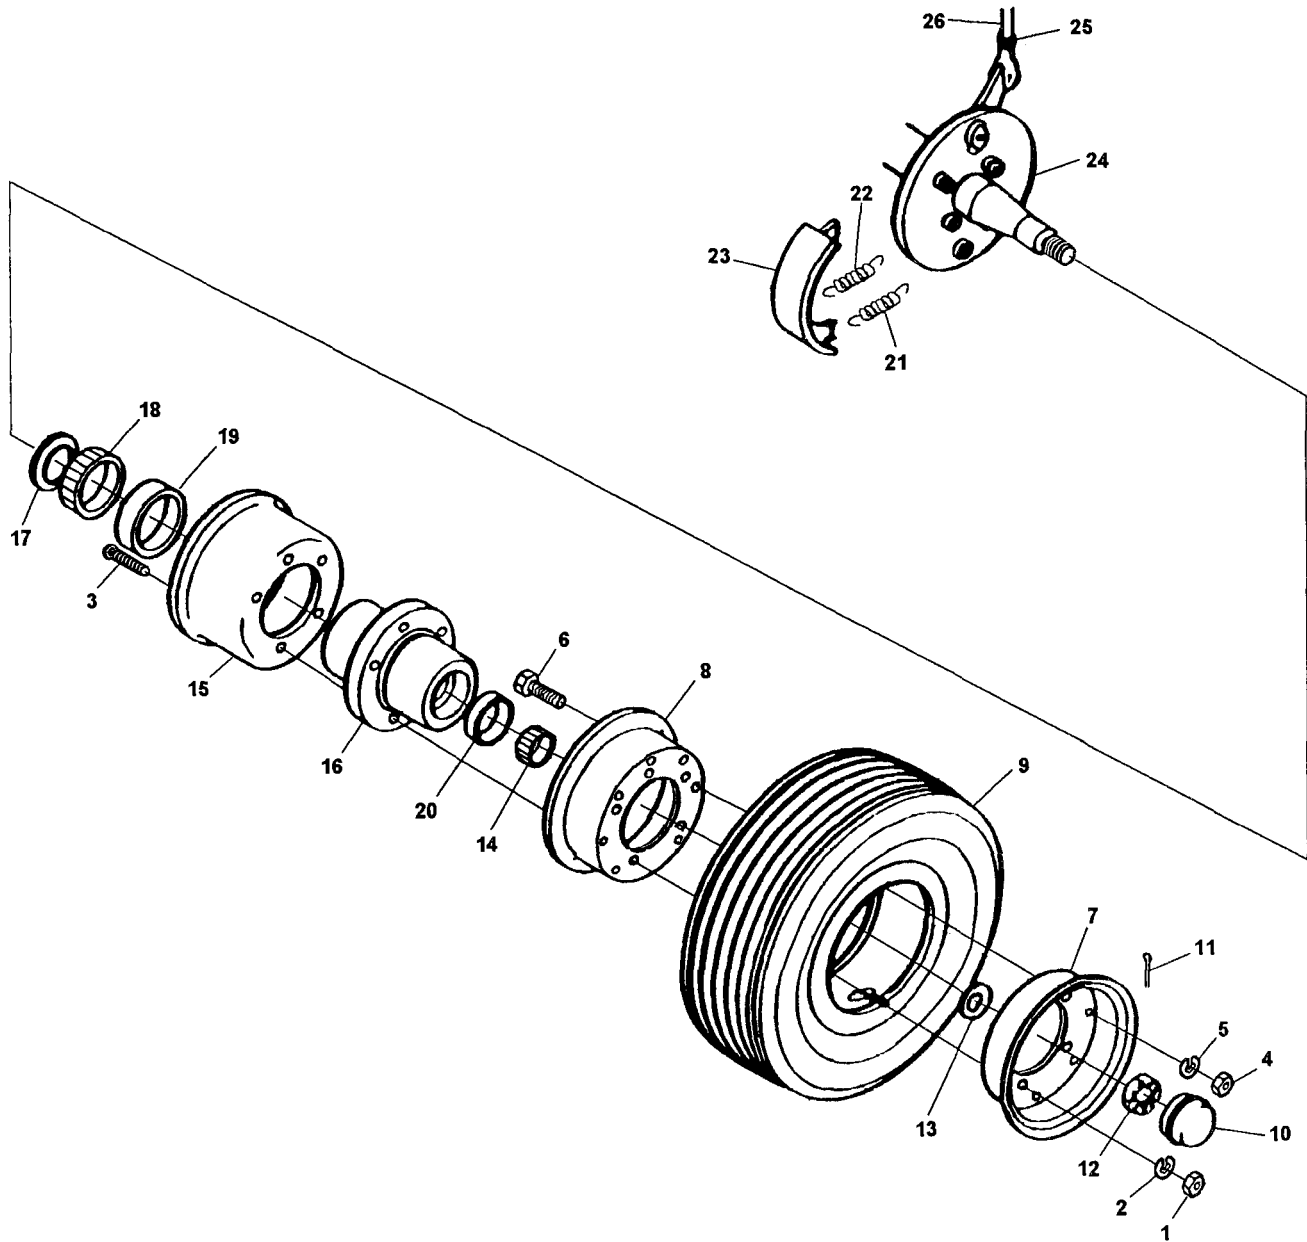

Figure 5-10. Wheel Mounting Kit, Wheels and Brakes, Exploded View
- (d) Remove lug nuts (1, Figure 5-10) and lockwashers (2) to remove wheel and tire.
- (e) Remove nuts (4), lockwashers (5) and screws (6) to separate wheel halves (7 and 8) and pneumatic tire (9).
- (f) Inspect lug nut studs (3) for crossed, stripped, or peened threads or other damage.
- (2) Repair. Refer to Appendix A for listing of applicable manual for pneumatic tire repair.
- (3) Installation.
- (b) If damaged, install new lug nut studs (3, Figure 5-10).
- (c) Install pneumatic tire (9), wheel halves (8 and 7), screws (6), lockwashers (5), and nuts (4).
- (d) Position tire and wheel to install lockwashers (2) and lug nuts (1).
(1) Removal.
- (a) Remove wheel and tire as outlined in paragraph 5-19a (1) above.
- (b) Remove grease cap (10, Figure 5-10), cotter pin (11) and castellated nut (12) and key washer (13) to remove outer bearing (14).
- (c) Remove drum (15) and hub (16) as an assembly with grease seal (17), inner bearing (18) and races (19 and 20). Remove grease seal and inner bearing.
- (a) Remove wheel and tire with drum assembly as outlined in paragraph 5-19b. (1) above.
- (b) Remove return springs (21, Figure 5-10).
- (c) Remove hold-down springs (22) and brake shoes (23) from axle and plate assembly (24).
(2) Cleaning and Inspection.
(3) Repair. Replace any parts found defective.
(4) Installation.
- (a) Install brake shoes (23, Figure 5-10) and springs (22) onto axle plate assembly (24).
- (b) Install return springs (21).
- (c) Install tire and wheel with drum assembly as outlined in paragraph 5-19b. (1) above.
- (b) Loosen lock nuts (25, Figure 5-10) on both wheels and rotate rod (26) until both brake shoes lightly rub drums. Tighten lock nuts (25).